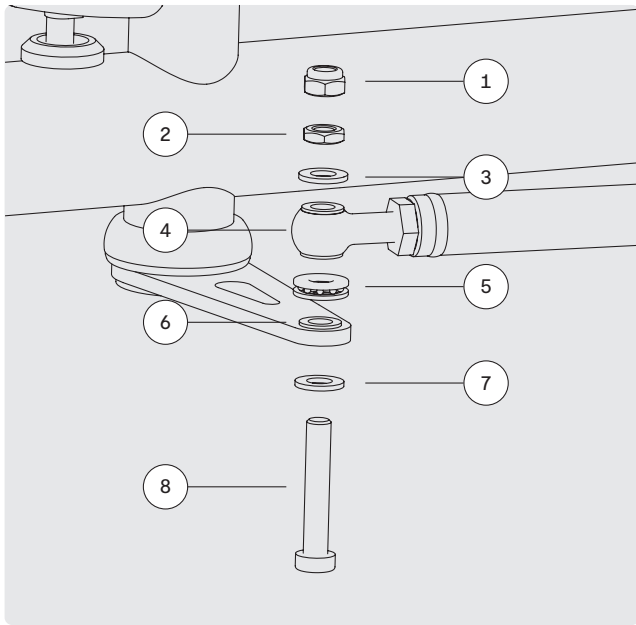

FIG. 10
- 1 Position the steering tube extension and the steering linkage eyebolt on top of each other and put the individual elements in the correct order on top of each other according to the Fig. 10 on the following page.